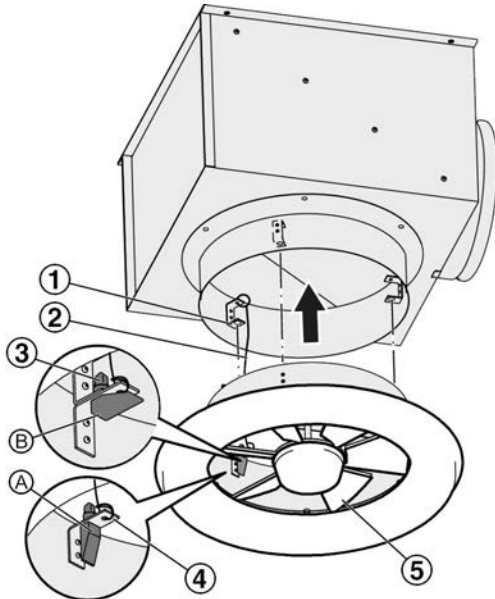

Fig. 6: Installing the diffuser face
1. ▶ Move the swirl unit (Fig. 6/5) such that it opens; in variants with an electric actuator you can press the gear release button to unlock the gears such that you can turn the swirl unit manually.
2. ▶ Attach the safety cable (Fig. 6/2) with a loop to the diffuser fixing bracket (Fig. 6/4), and with a key ring to the plenum box fixing bracket (Fig. 6/1).
3. ▶ Open the three 'levers' on the diffuser (position A); note the pointed parts protruding at the top (Fig. 6/3).
4. ▶ Insert the diffuser into the plenum box opening: Push the pointed parts of the levers through the holes in the plenum box fixing brackets (Fig. 6/1). Push the diffuser completely in and fix it by moving the levers into the 'CLOSED' position (position B).